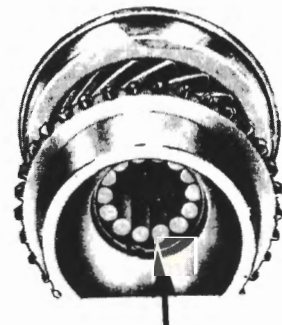

Fig. L-16
- (a) Remove needle rollers from bore of input gear. Fig. L-16.